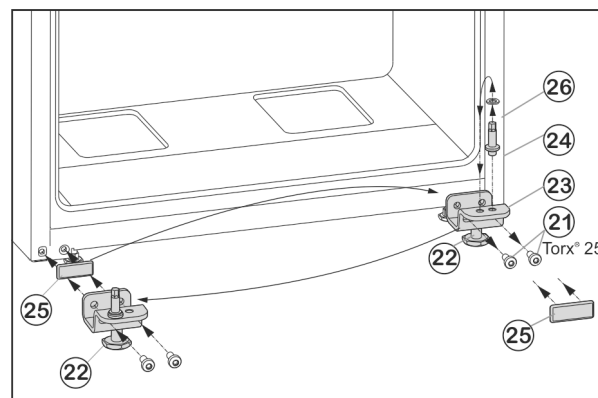

Fig. 7
- ▶ Unscrew fastening screws Fig. 7 (21) .
- ▶ Remove the lower bearing block Fig. 7 (23), complete with bearing bolt Fig. 7 (24), washer Fig. 7 (26) and adjustable foot Fig. 7 (22).
- ▶ Unscrew the bearing bolt Fig. 7 (24), complete with washer Fig. 7 (26), re-locate it into the mounting hole on the opposite side of the bearing block and tighten again.
- ▶ Carefully remove the cover plate Fig. 7 (25) and re-locate it to the other side.
- Fasten the lower bearing block *Fig. 7 (23)*, complete with bearing bolt *Fig. 7 (24)*, washer *Fig. 7 (26)* and adjustable foot *Fig. 7 (22)* to the new hinge side, with the help of a cordless screwdriver if necessary, and **tighten (with 4 Nm)** once again.
- Lower the bottom door onto the bearing bolt *Fig. 7 (24)*.
- Unscrew the adjustable foot *Fig. 7 (22)* on the lower bearing block *Fig. 7 (23)* until it reaches the floor.